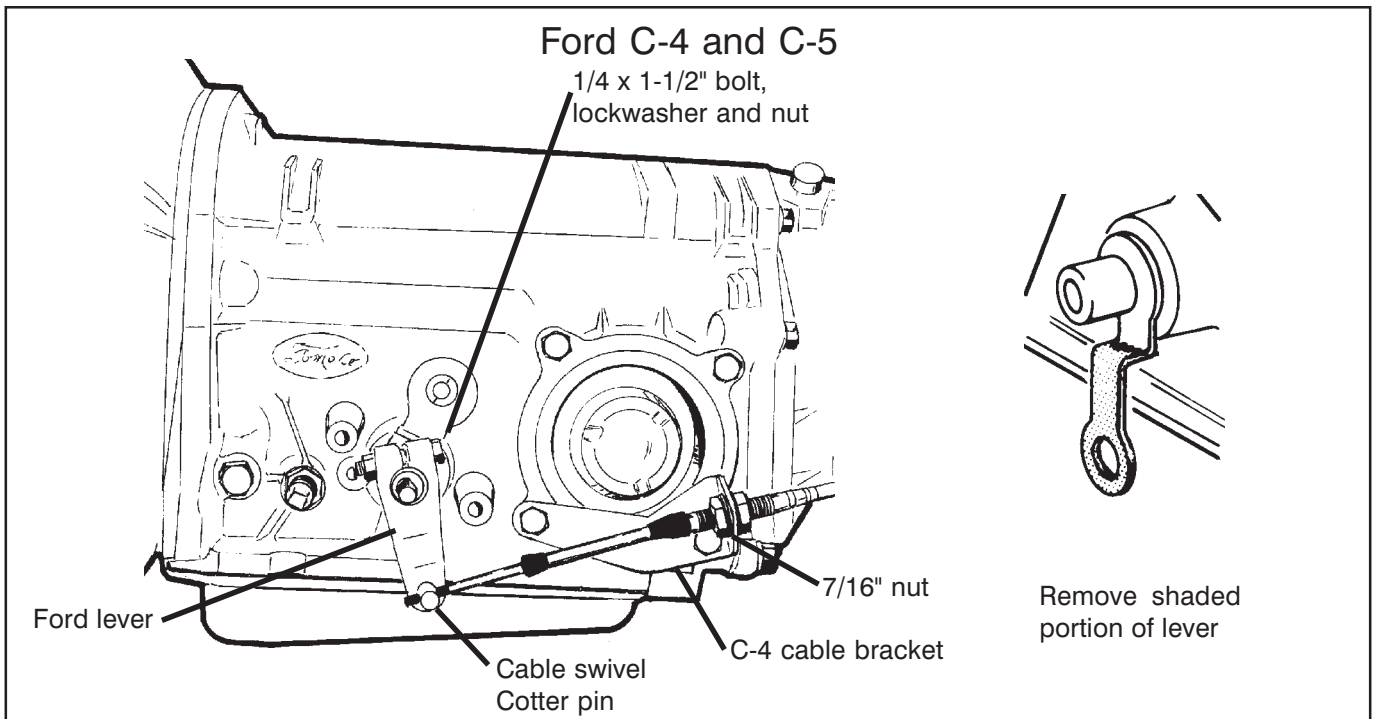
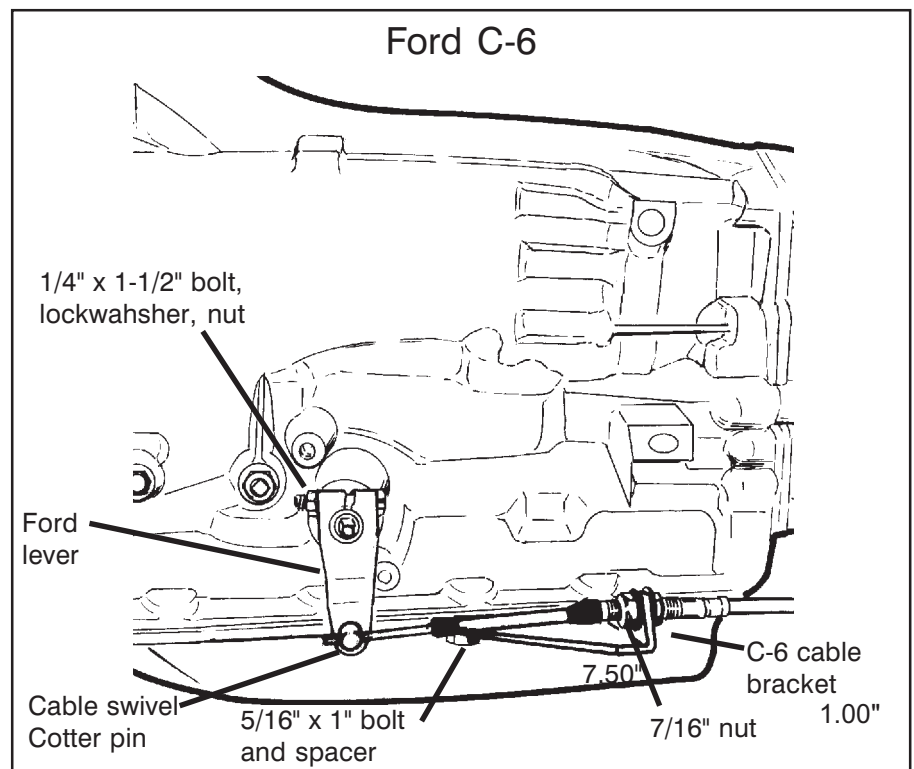

Figure 7
Figure 8
STEP 16. Install the **B&M** selector lever, See **figure 7 or 8.** Note: The B&M lever must point downward for proper operation. If the stock shift lever on your transmission points down, you will have to remove the lower part of the stock arm by cutting it off to clear the **B&M** lever, (See **figure 8**). Install **B&M** selector lever onto shift shaft of transmission. Align selector lever so when it points straight down it travels equal arcs in both directions from center, then tighten 1/4"-20 x 1 1/2" pinch bolt and nut. The lever should travel smoothly from front to back with a positive click in each gear position. Make sure O-ring is in position on downshift shaft and install downshift lever in position on shaft. Install lockwasher and nut
C-4, C-5: Remove the two lower bolts from the rear servo cover. Install cable bracket in position, (See **figure 7**). Install two servo cover bolts as removed and tighten 12-13 ft. lbs. Do not overtighten as this can distort servo cover.
Install cable bracket in position, (See **figure 8**) with two spacers between the pan and bracket. (If your transmission is equipped with a cast aluminum oil pan, these spacers can be omitted.) Install the two 5/16-18 x 1.00" bolts supplied and tighten 12-13 ft. lbs. Do not overtighten as this can damage pan gasket.